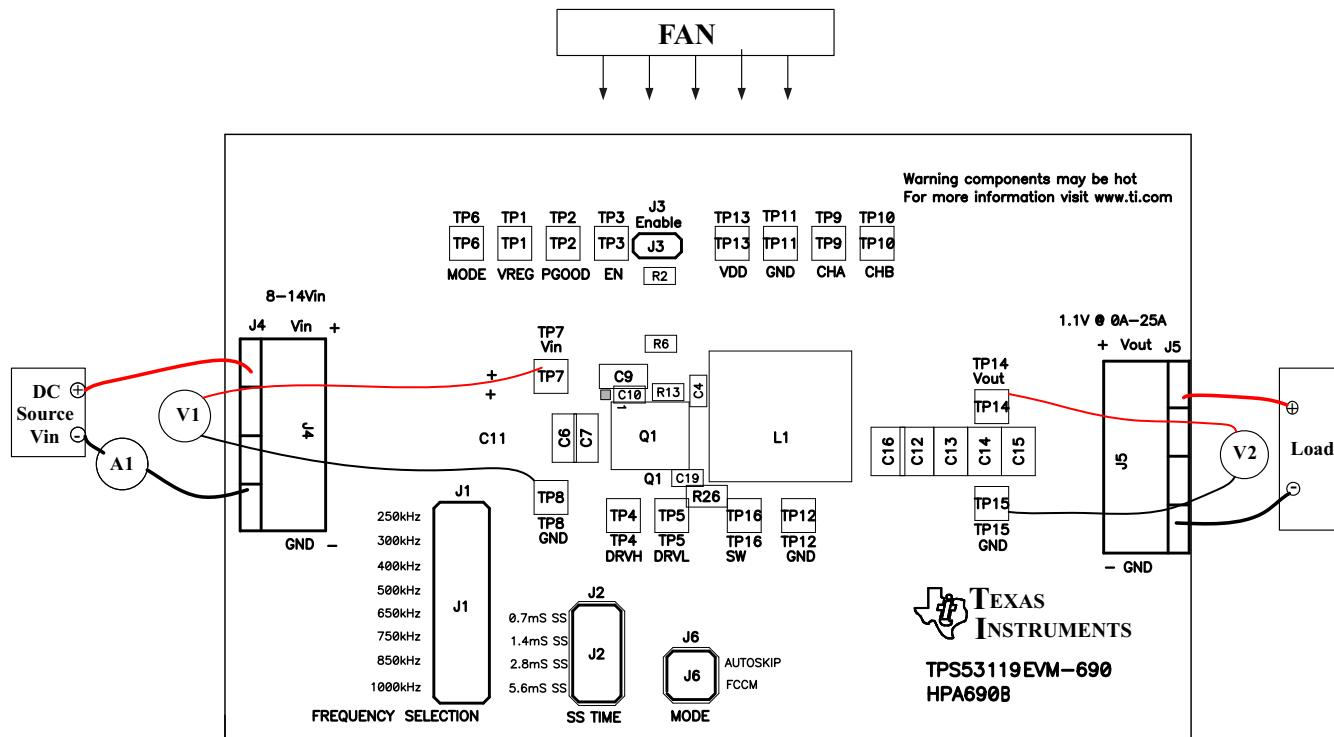

Figure 5-2. TPS53119EVM-690 Recommended Test Setup
Voltage Source: The input voltage source V_{IN} must be a 0-V to 14-V variable DC source capable of supplying 10 A_{DC}. Connect VIN to J4 as shown in Figure 5-2.
Figure 5-2 is the recommended test setup to evaluate the TPS53119EVM-690. Working at an ESD workstation, make sure that any wrist straps, bootstraps, or mats are connected referencing the user to earth ground before power is applied to the EVM.
- Prior to connecting the dc input source V_{IN} , it is advisable to limit the source current from V_{IN} to 10 A maximum. Ensure that V_{IN} is initially set to 0 V and connected as shown in Figure 5-2.
Place a fan as shown in Figure 5-2 and turn it on, ensuring that air is flowing across the EVM.
1. Set up the EVM as described in Section 5 and Figure 5-2.